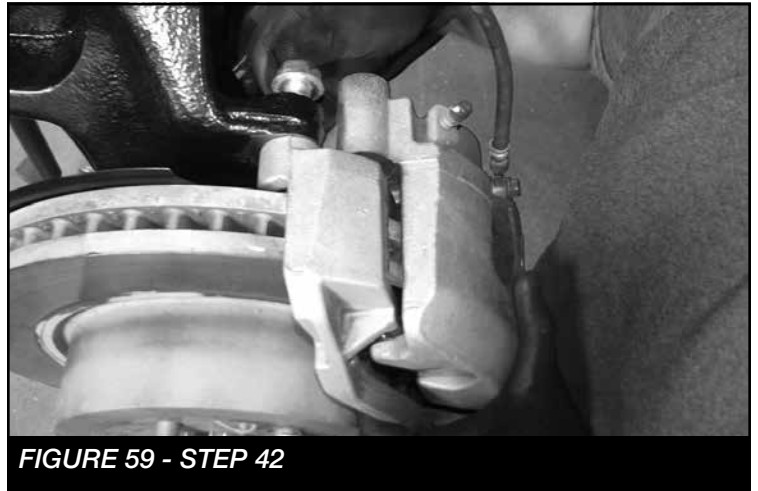
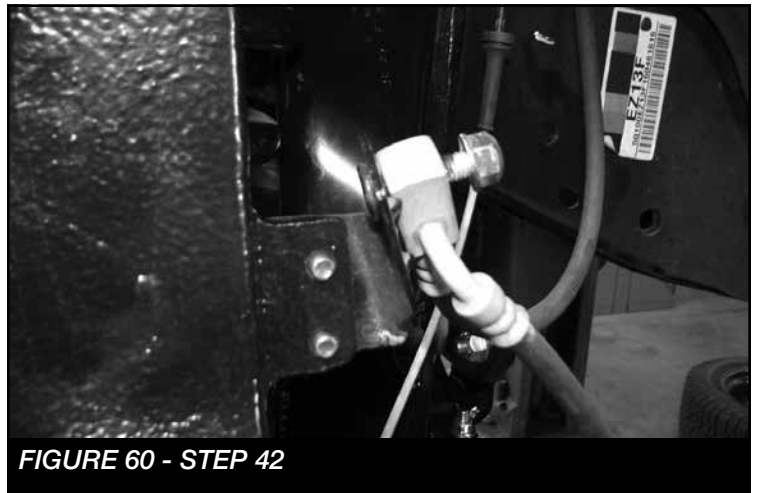

FIGURE 59 - STEP 42
FIGURE 60 - STEP 42
42. Reinstall the brake caliper using the factory bolts. **SEE FIGURE 59** Torque to 160 ft-lbs. Next, install the brake line union to the bracket. **SEE FIGURE 60**